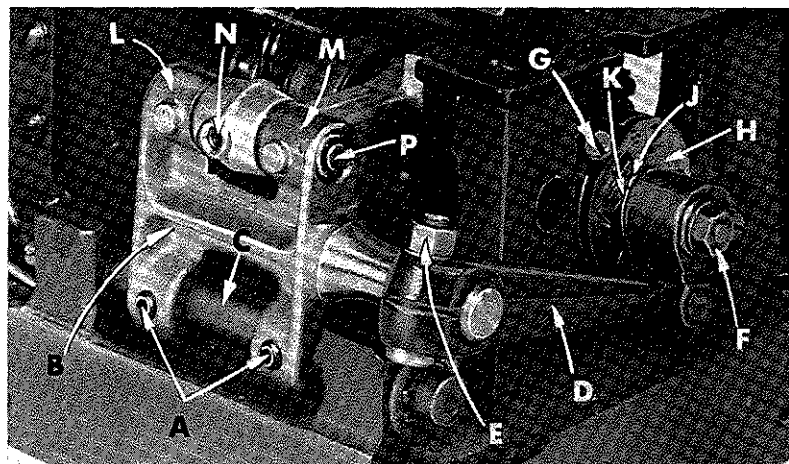

Fig. 15
Should it be necessary to move the feed dog to the left or right, loosen screws (A, Fig. 15), which hold the feed rocker (B) onto the feed rocker shaft (C) and move feed rocker to desired position then retighten the screws. Make sure the feed rocker arm (D) does not bind after making this adjustment.
Should it be necessary to move the feed dog forward or backward, loosen nut (E, Fig. 15) which clamps the feed rocker arm to the feed rocker and move feed rocker forward or backward as necessary. Retighten nut.
Set the stitch to required length. This is accomplished by loosening lock nut (F, Fig. 15) 1/2 turn (it has a left thread) on the end of the stitch regulating stud and turning the stitch adjusting screw (G) located under the left end of the cloth plate in the head of the main shaft (H) which is marked with "L" and "S". Turning the screw in a clockwise direction shortens the stitch (moves stitch regulating stud toward the "S") and turning it in a counterclockwise direction lengthens the stitch (moves stitch regulating stud toward the "L"). Retighten the lock nut securely. To prevent destructive damage to the feed drive bearing, the key screw (J) must engage the "U" shaped key slot in the ferrule (K).
On Styles 57700 R, S and V, the feed rocker assembly may require lubrication after years of operation at the feed rocker needle bearings (L and M, Fig. 15). This can be accomplished by loosening Allen screw (N) and remove shaft (P). When packing needle bearings, parts must be clean and grease should be applied directly from the tube to avoid contamination. Tube of grease can be supplied under part No. 28604 P. Replace shaft inserting tapered end first and tighten screw (N).